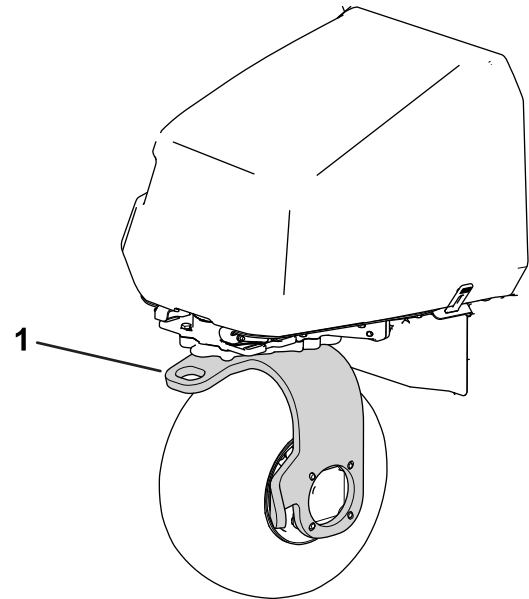

Figure 34
11. Use the rear castor fork to tow the machine (Figure 34).